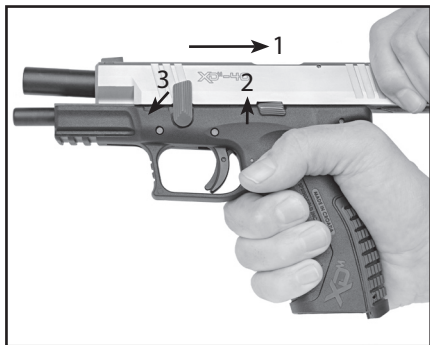

Figure 27
4. (See Figure 27) Move the slide to its most rearward position (1) (at this point spring resistance will be encountered) and move/push the slide stop up (2), locking the slide to the rear.